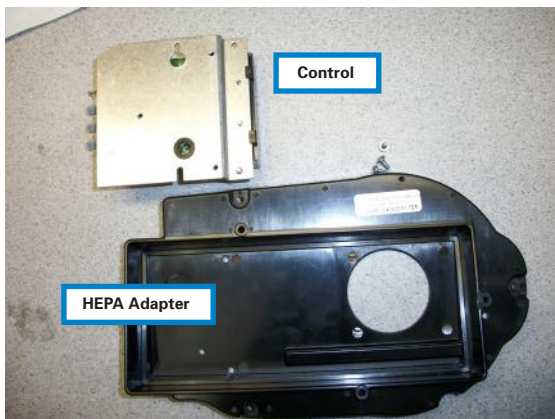

Figure 7
7. Arrange control (previously removed) and the HEPA Filter Adapter as shown (Figure. 7)